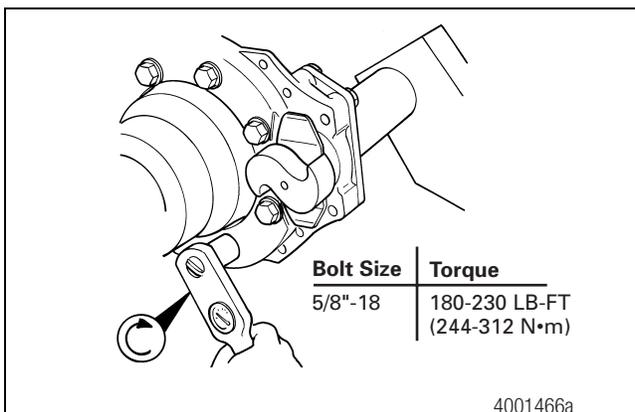

Figure 4.10
1. Tighten all the spider bolts to the correct torque. Figure 4.10. 🔧